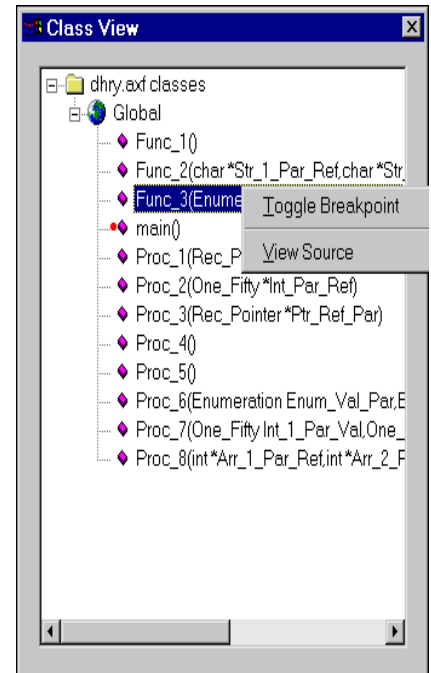

Figure 3-23 The Class View window menu
2. Click the right mouse button on a member function. A Class View window menu is displayed (Figure 3-23).
2. Click the right mouse button on a member function. A Class View window menu is displayed (Figure 3-23 on page 3-65).